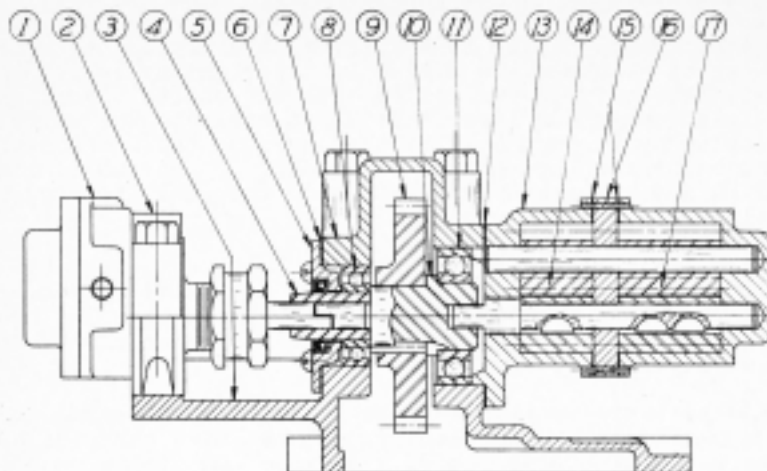

FIG. T-1
The rotary pump group, illustrated in Fig. T-1, is built into one of the center frame doors (3). It includes the lubricating oil pressure and sump pumps (14) and (17) and the fuel transfer pump (1), together with drive shaft (10) and gear (9), which meshes with a driving gear on the cam shaft. The door is positioned and doweled on the centerframe for .004" gear backlash. The door gasket should be 1/32" thick to maintain this adjustment.
oil seal, assemble in the cover as shown in Fig. T-1.